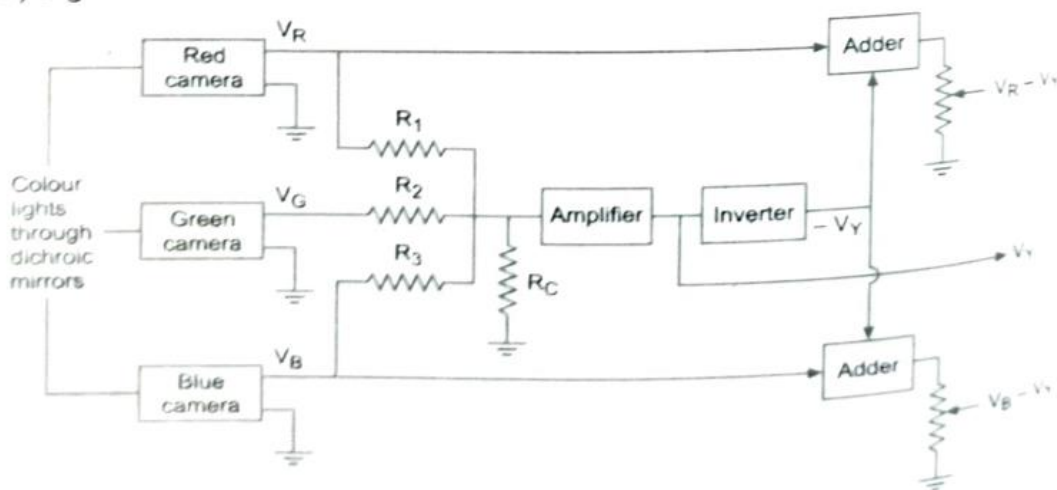

Fig. 14.4. Generation of Y, (R-Y) and (B-Y) colour signals
- Fig.14.4 shows a simple circuit which illustrates generation of Y, (R-Y) and (B-Y) signal.